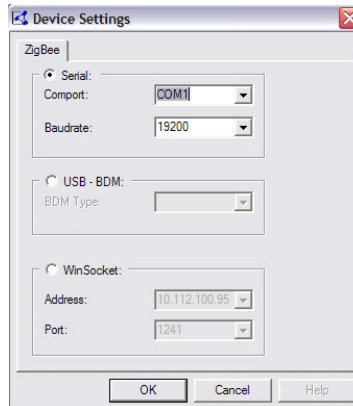

Figure 44. Test Tool Device Settings Window
- As shown in Figure 44, for the board that is running the SPTC application, create a new serial connection. Select the appropriate Comport and set the baud rate at 19200. Click the OK button